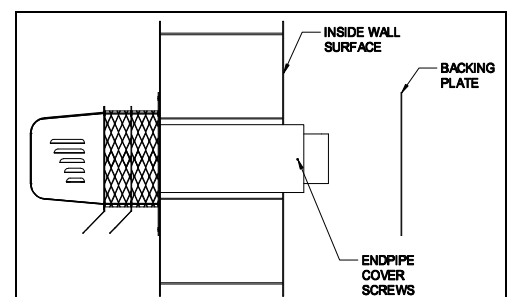

Figure 4
- Remove the end pipe cover screws on the sides of the outside pipe and remove end pipe cover. Then mount the backing plate over the outer pipe and route the flexible conduit and pressure switch tube (if applicable) through the holes provided in the backing plate. Fasten the backing plate to the inside wall with appropriate fasteners. (See Figure 4) Re-install end pipe cover and screws.